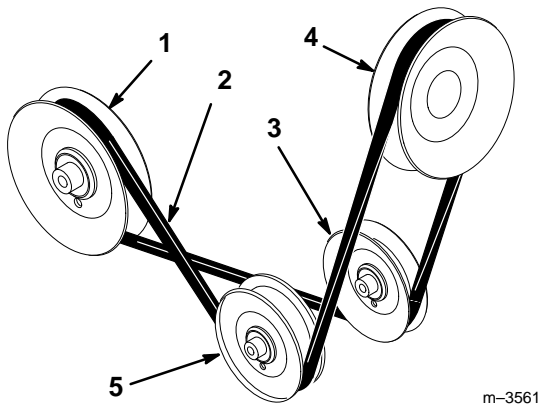
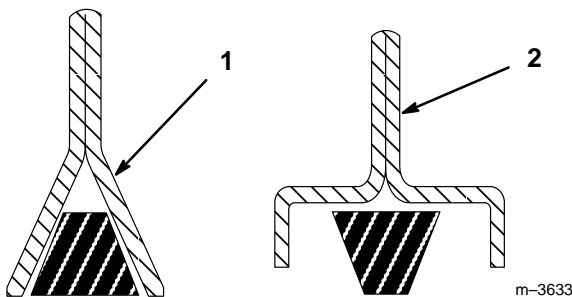

Figure 16
Figure 17
- 16.** Position the end of the PTO belt (long belt) into the groove of the engine PTO pulley (Fig. 16), making sure it is also under the pulleys in the pulley box. The wide, flat surface of the belt needs to be in contact with the wide, flat surface of the backside idler pulley (Fig. 17). Additional belt slack can be obtained (if needed) by turning the belt tension adjustment knob.